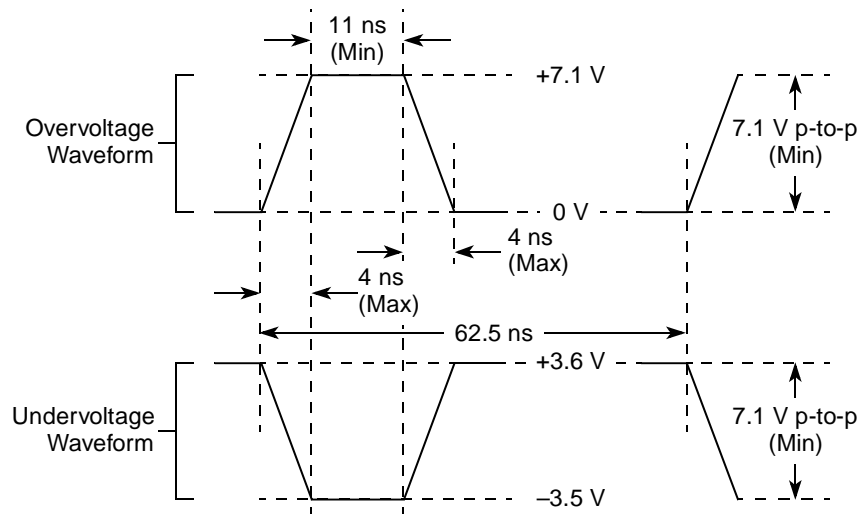

Figure 3. Maximum AC Waveforms on PCI Interface for 3.3-V Signaling
- ⁶ OV_{IN} on the PCI interface can overshoot/undershoot according to the PCI Electrical Specification for 3.3-V operation, as shown in Figure 3.
Figure 3 shows the overshoot and undershoot voltage of the PCI interface of the MPC8347EA for the 3.3-V signals, respectively.